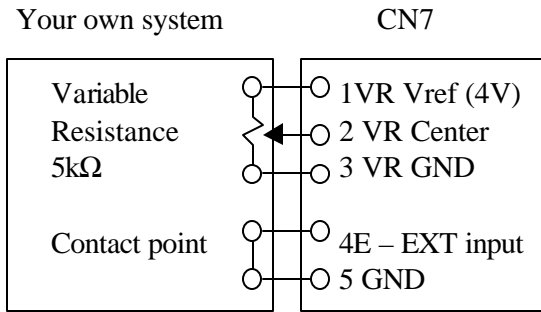

Figure 5
- A maximum resistance of  $5k\Omega$  should be connected between 1P, 2P and 3P of CN7. Adjustment between 0 and  $5k\Omega$  results in a speed change between the 0 and 100% levels (see Figure 5).